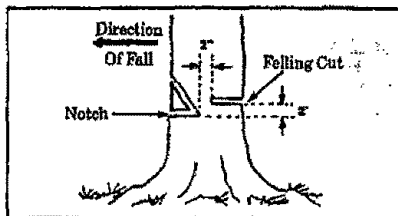

Figure 19
NOTE: If the tree has large buttress roots, remove them before making the notch. Cut into the buttresses vertically, then horizontally. Figure 19.
- a. Make the notch cut. Figure 19.